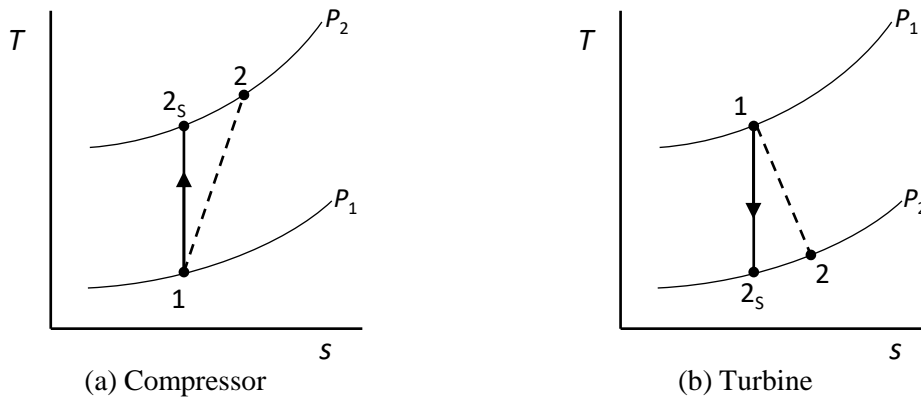

Figure 2.6: Isentropic (solid line) and real (dashed line) process for a compressor and a turbine.
Figure 2.6(a) shows the isentropic and real process of a compressor on a T-s diagram. Note that the outlet entropy and temperature of the real process (2) is higher than that of the isentropic process (2s).
The isentropic and real process is shown in figure 2.6(b). Note that again the outlet entropy and temperature of the real process (2) is higher than that of the isentropic process (2s).